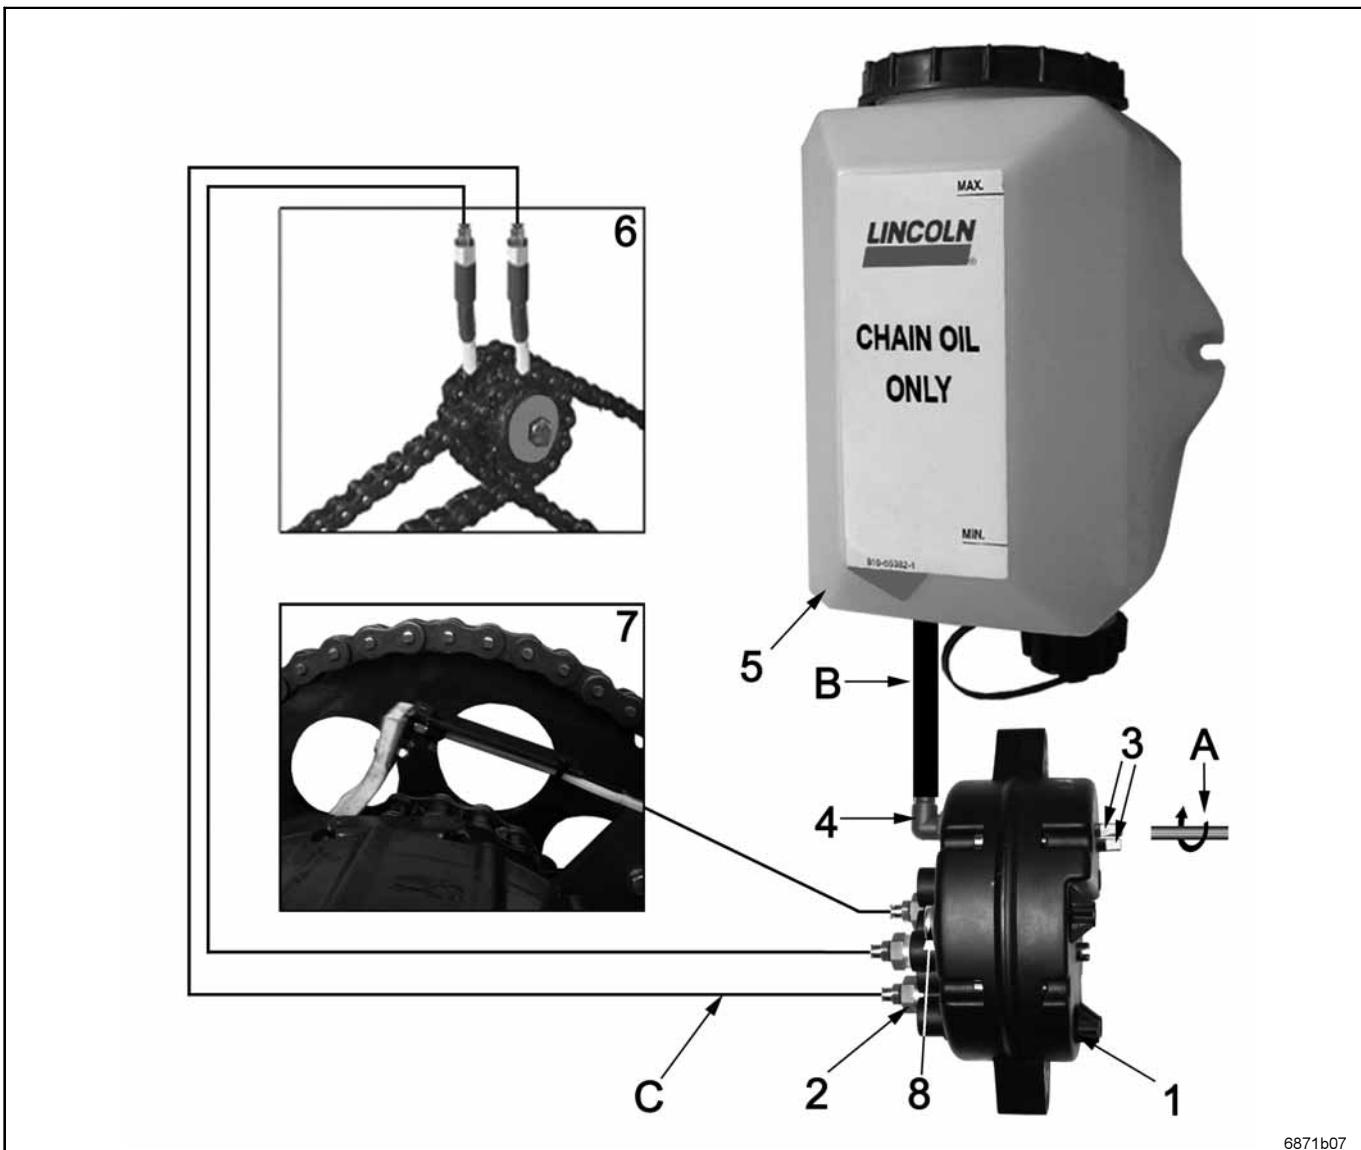

Fig. 6 Schematic structure of the MOP 112
- Connect respectively one lube point (brush, felt strip, Fig. 6) with a pump element of suitable output. Therefore use feed line \varnothing 6 mm (Pos. C).
- In any application, make sure that the oil quantity is distributed evenly over the whole width of the link chain (Fig. 6 & 7 in Fig. 6).
The MOP 112 mechanically driven oil lubrication system is driven by the driving shaft A (Fig. 6) of a carrier device (i.e. baler). The rotary movement of the driving shaft 3 is transmitted to various cam disks inside the MOP. These cam disks then activate the installed pump elements 2 (maximum 12 pump elements). Thereby the differences in height of the curve disks are converted into piston strokes of the pump elements. The oil quantity supplied in this way is pumped from the pump element directly to the feed lines C.